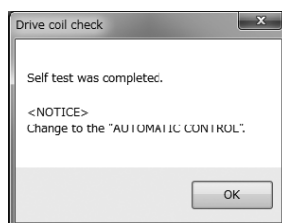
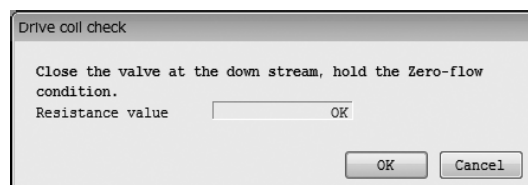

Fig.109
Fig.110
- ⑤ Click "OK" to execute the checks. Once they are finished, a message box (Fig. 109) will be displayed. Click the "OK" button to complete the hardware check. The results are displayed as shown in Fig. 110.